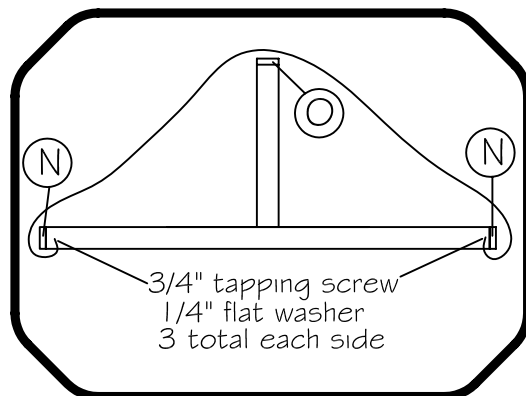

FIG. 10
Step 3: Drape tarp over Tarp Support 'O' and End Caps 'N'. Attach one side of tarp to inside of one End Cap 'N' with (3) 3/4" tapping screws and 1/4" flat washers. Pull other side of tarp tight and attach to other End Cap 'N' with (3) 3/4" tapping screws and 1/4" flat washers as shown. (see Fig. 10 & 11)